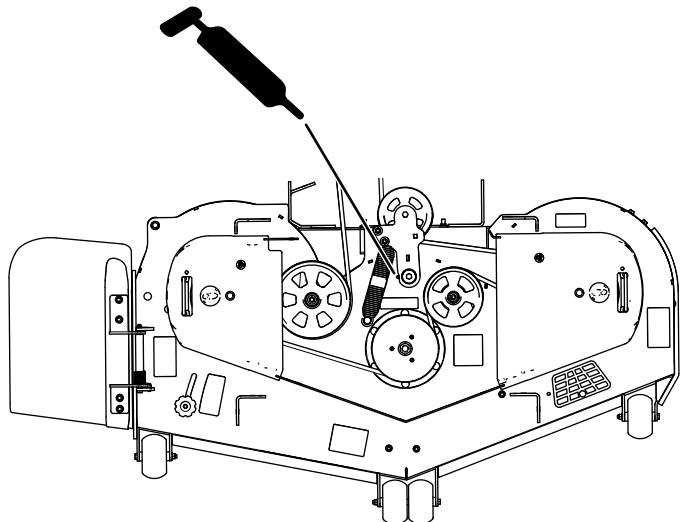
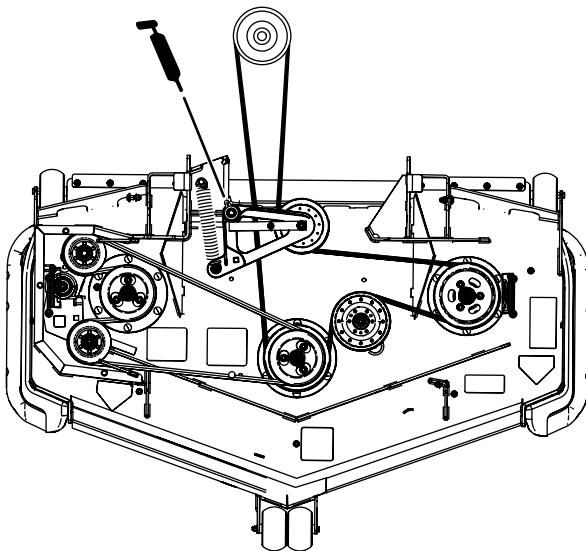

Figure 45
Figure 46
3. Grease the mower deck idler-pulley pivot until grease comes out the bottom (Figure 45 or Figure 46).